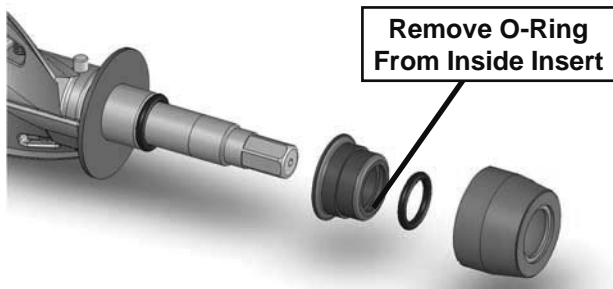

Figure 3-3 Rear Seal Assembly
8. Wipe the spline lubricant off the hex end of the auger with a paper towel. Remove the rear seal assembly (Fig. 3-3).